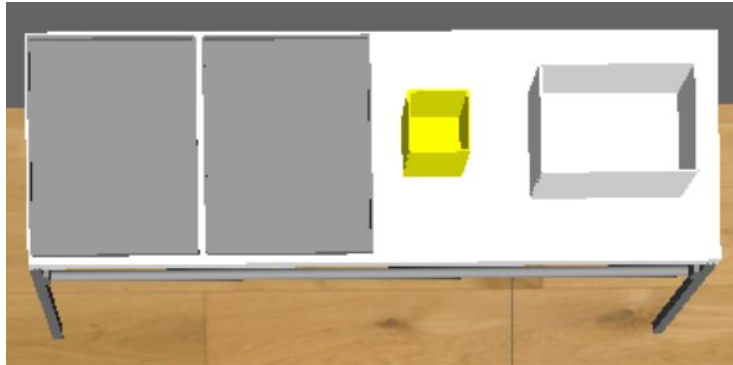

Figure 5: Containers may vary in shape and size, but they will be within a predefined area in the deposit area.
- Storage places: drawer, tray, bin, pen pencil holder (Figure 5).